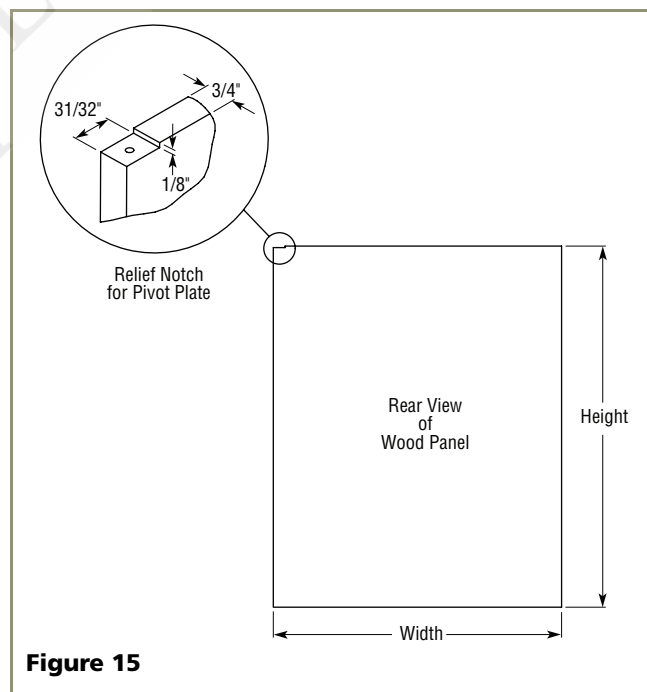
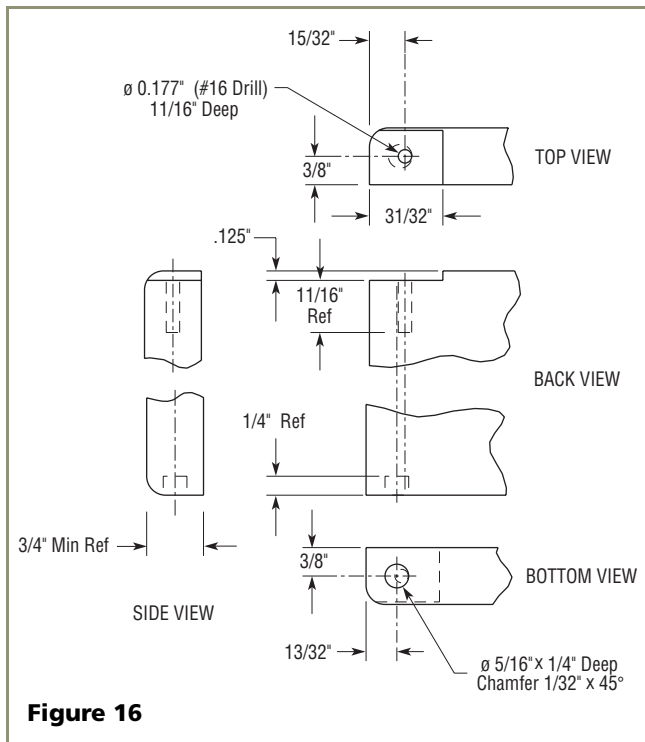

Figure 15
Figure 16
1. Cut the overlay to the following dimensions (see **Figure 15**).
2. Create a relief (**Figure 15**) for pivot plate by cutting notch in top corner of overlay panel. Refer to **Figure 16** for exact specifications.
3. Drill hole for upper door hinge (top of panel) (see **Figure 16**, Top View).
4. Drill hole for lower door hinge (see **Figure 16**, Bottom View).